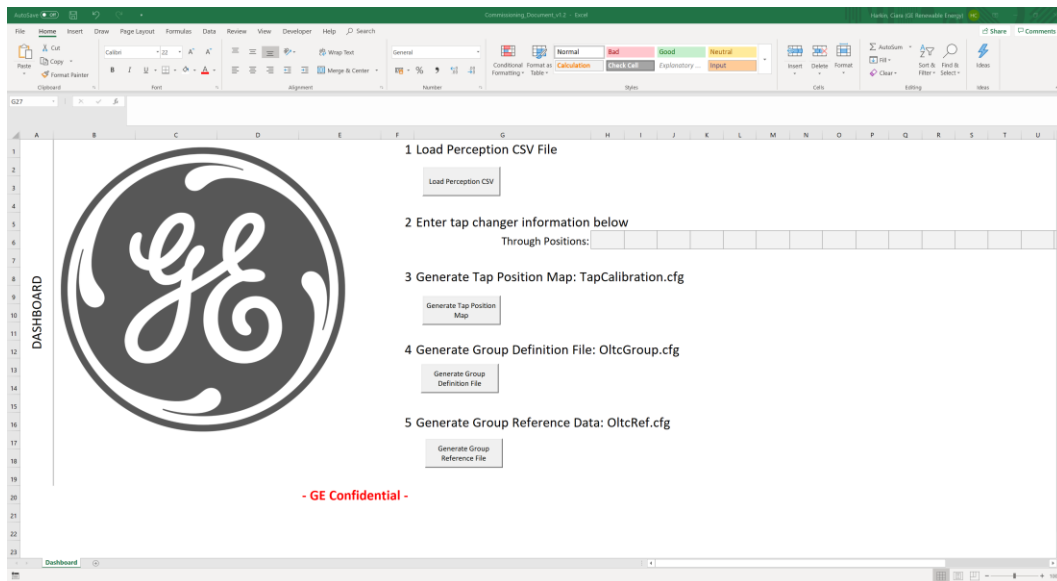

Figure 10-13: Microsoft Excel – Commissioning\_Document\_v1.2 – Dashboard homepage
1. Start Microsoft Excel and open the Commissioning\_Document\_v1.2 as shown in Figure 10-13.